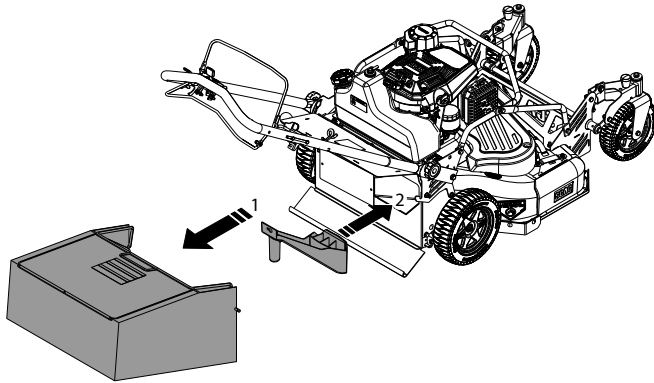

Figure 6-6. Mulch Conversion
3. Release the latch and remove the discharge block off plate. See Figure 6-6.
4. Install the side discharge chute and secure with the latch. See Figure 6-6.